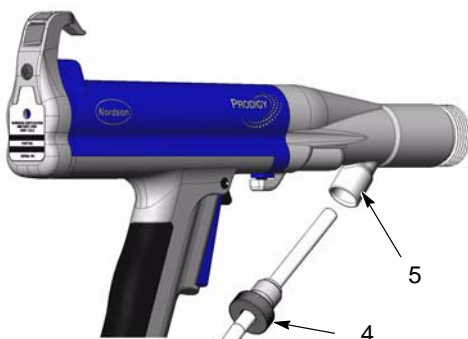

Figure 2 Disconnecting the Powder Tubing
4. See Figure 2. Unscrew the locking knob (4) on the gun adapter (5) and pull the powder tubing out through the gun adapter.
- See Figure 2. Thread the locking knob (4) onto the end of the flexible powder tubing.